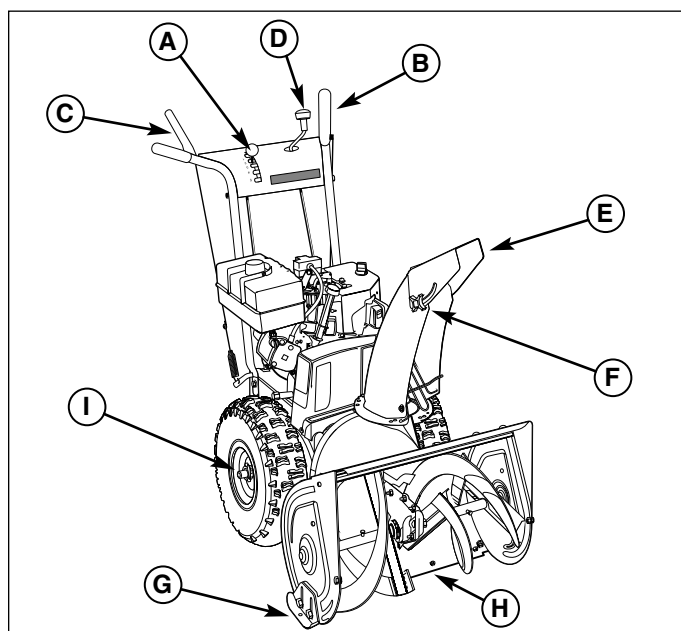

Figure 3. Snowthrower Controls
E. Chute Deflector - Controls the distance snow is thrown. Tilting the chute deflector (E, Figure 3) UP provides a higher stream and greater distance, while tilting the deflector DOWN provides a lower stream and less distance.
F. Chute Deflector Knob - This knob (F, Figure 3) allows the discharge chute deflector (E) to be locked in the desired tilt position.
G, H. Scraper Bar Height Control - The skid shoes (G, Figure 3) control the height of the scraper bar (H). (NOTE: On later models, the scraper bar is also adjustable.) The scraper bar allows smooth surfaces (such as concrete or asphalt driveways) to be scraped clean of snow. On surfaces such as gravel, the scraper bar should be adjusted higher — so that it will not pick up gravel or debris.
I. Traction Lock Pins - The traction drive to each wheel can be locked and unlocked with the traction lock pins (I, Figure 3) to permit the unit to "free-wheel," allowing easier manual handling and transport of the snowthrower.
9. Check the chute deflector (E, Figure 3) for proper operation. The deflector should pivot freely up and down when the chute deflector knob is loosened. If adjustment is required, see the Service Section for procedures.